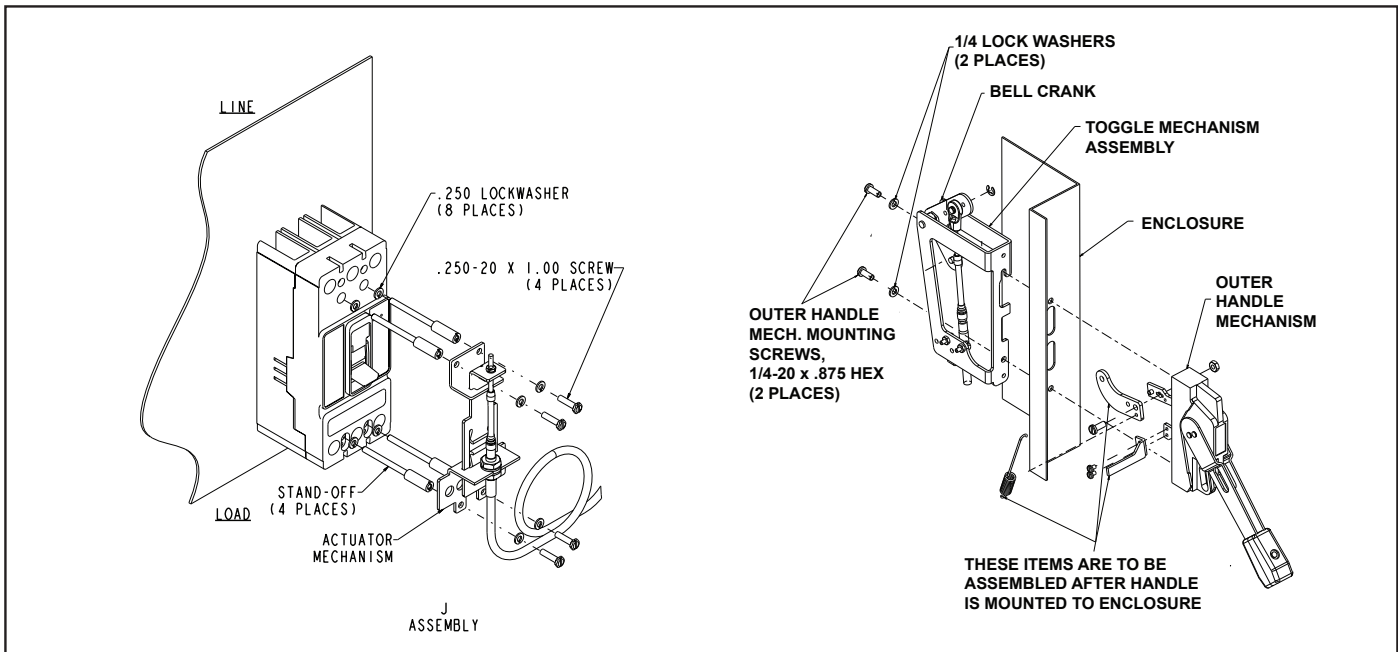

Fig. 1-1 Securing Actuator Mechanism to Breaker and Toggle Mechanism and Handle to Flange.
1. Install breaker with the four standoffs and lockwashers. (See Fig. 1-1).